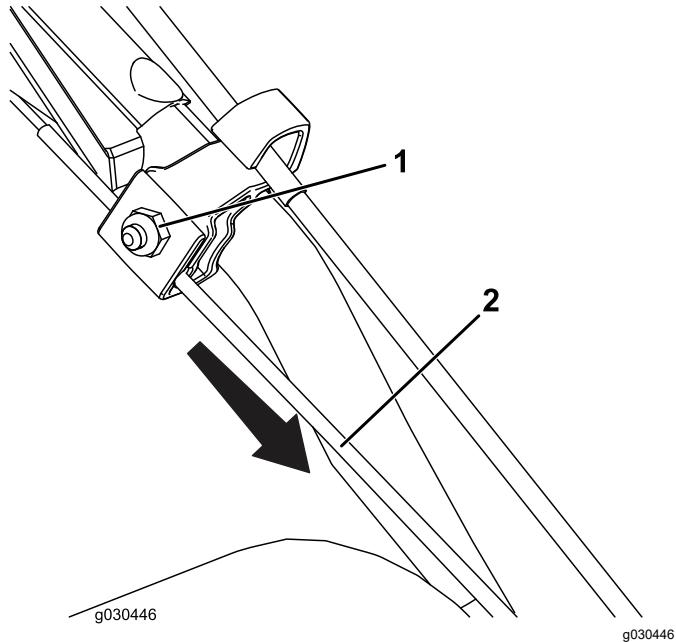

Figure 27
1. Loosen the nut on the upper cable clamp, but do not remove it (Figure 27).
2. Pull the cable down to remove most of the slack in the cable (Figure 27).
3. Tighten the nut (Figure 27).